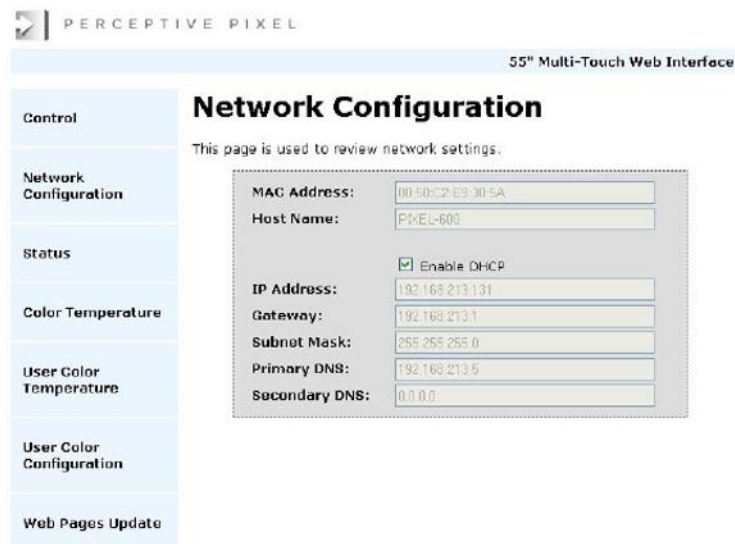

Figure 16. Network Configuration page. Use this page to view network settings. DHCP (Dynamic Host Configuration Protocol), is enabled by default.
- Network Configuration - figure 16